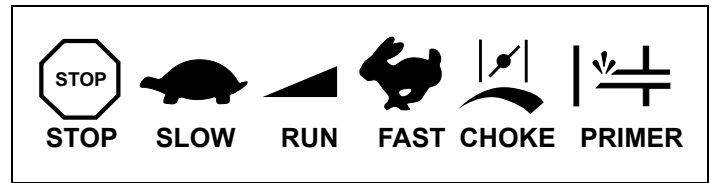

Figure 11. Typical Engine Symbols
3. Move Engine Speed Control to "FAST" position. See Figures 11 and 12.
4. Set Choke Control to "FULL" position. See Figures 11 and 15.